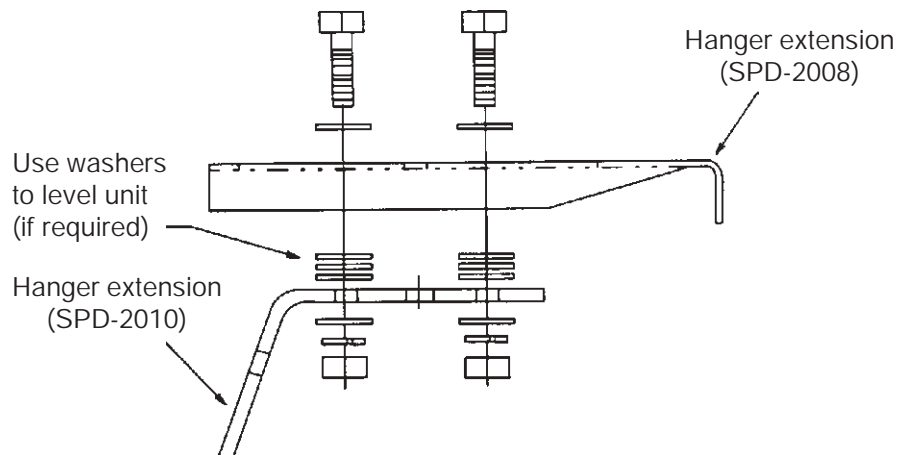

Figure 2: Use washers to level unit.
5. If required, add spacer washers between hanger brackets and hanger extensions to level unit (Figure 2).